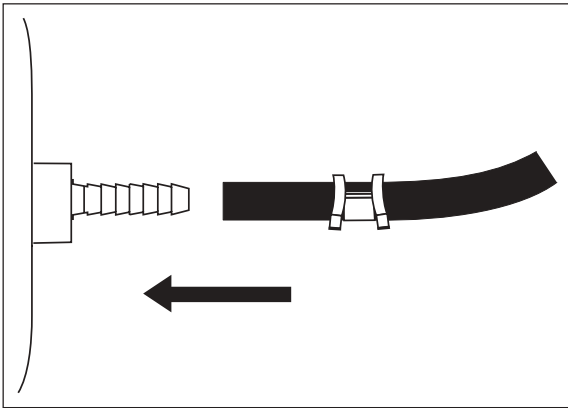

Figure 4
6. Push the air line onto the stem, covering all the barbs (Figure 4). With the pliers, slide the air line clamp upward until it fully covers the barbed section.
7. Push the remaining air line over the last fitting on tee and route along frame to desired inflation valve location (Figure 4). Attach with plastic straps or wire.
5. Push the air line onto the stem, covering all the barbed section (Figure 4). With pliers slide the air line clamp forward until it fully covers barbed section.
5. If it is ever suspected that the air bags have bottomed out, increase the pressure (fig. 4).